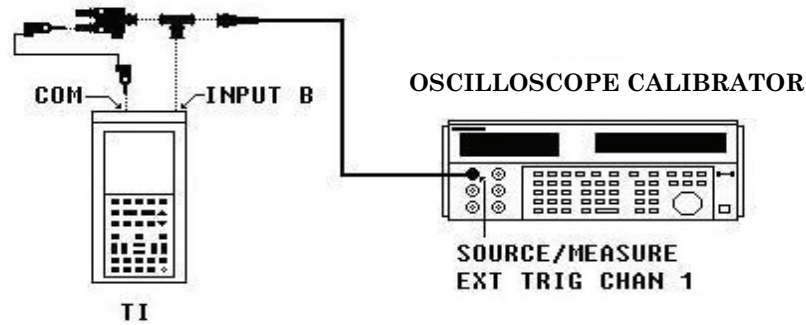

Figure 2. Scope vertical gain input B.
- (6) Connect equipment as shown in figure 2.
- (7) **(F1) CLOSE** which will display/highlight **CONTR**.